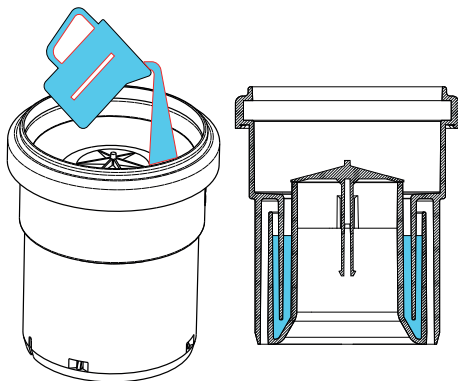
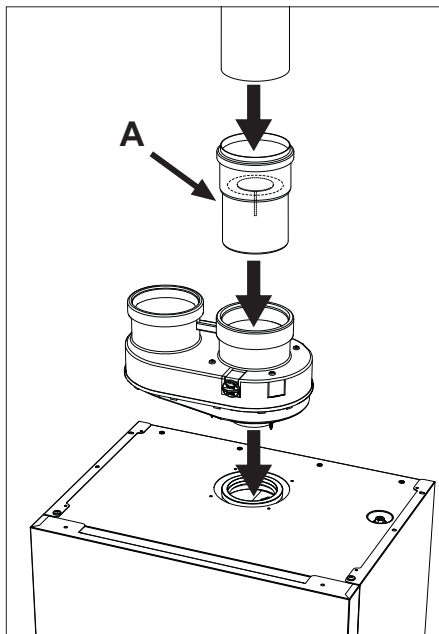

fig. 42- Trap inside the valve
fig. 43- CLAPET VALVE
The boiler can be connected to positive pressure collective flues **ONLY IF FUELED WITH NATURAL GAS (G20), with separate flue and equipped with the "CLAPET VALVE"** (ref. A - fig. 43) **code 041106X0**. Valve installation must be carried out according to the instructions of fig. 43 and fig. 42.
**The “CLAPET VALVE” (ref. A - fig. 43) code 041106X0 CAN ONLY BE INSTALLED AND USED VERTICALLY**